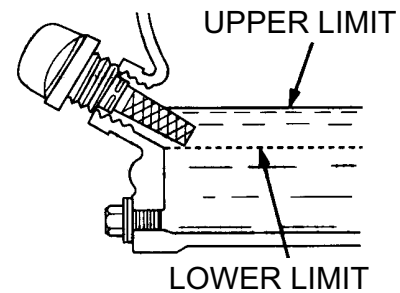

Figure 7. Engine Oil Dipstick (Oil Level)
4. If the oil level is low (See Figure 7), fill to the edge of the oil filler hole with the recommended oil type (Table 7). Maximum oil capacity is 1.16 quarts (1.1 liters).